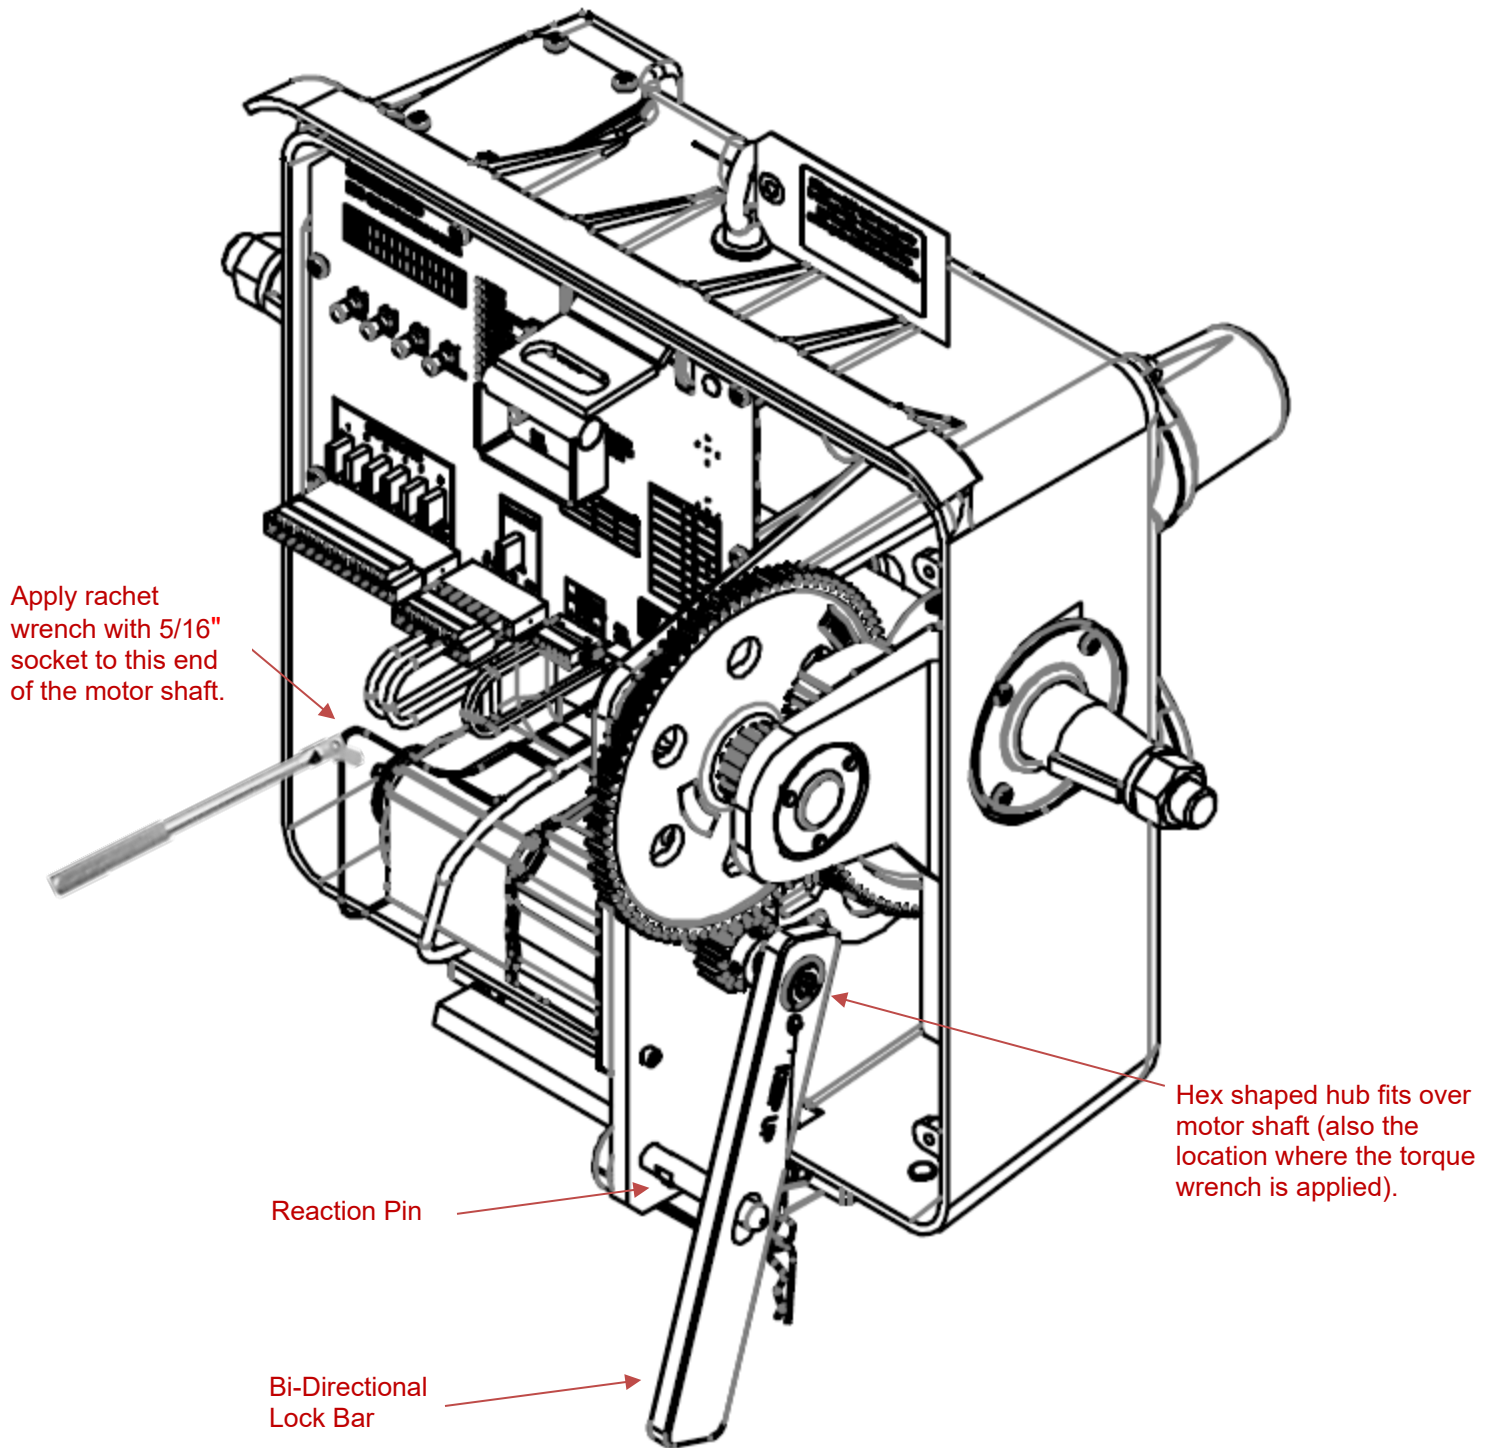

Figure 4-4 Hand Cranking Gate Mechanism
1. Install the torque wrench onto the 1/2" hex of the gearmotor output shaft (see Figure 4.4). This is the same location as where the lock bar is applied.
- i. With the gate arm in the horizontal position, install the lock bar onto the ½" hex of the gearmotor output shaft (see Figure 4.4).
- iv. Once the gate is in the vertical position, engage the slot in the lock bar with the reaction pin (see Figure 4.4).
- iii. Install the lock bar onto the ½" hex of the gearmotor output shaft, ensuring that the slot in the lock bar is engaged with the reaction pin (see Figure 4.4).
4. Install the torque wrench onto the 1/2" hex of the gearmotor output shaft (Figure 4.4).
9. Install the lock bar onto the 1/2" hex of the gearmotor output shaft and engage the slot in the lock bar with the reaction pin (Figure 4.4).